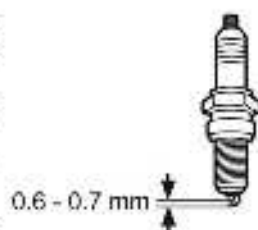

Fig. 24
- > Check the spark plug gap. It should be 0.6 - 0.7 mm (Fig. 24).
- > When replacing the spark plug, first screw it in hand tight and then lightly tighten it with the multi tool (27). Tighten the spark plug clockwise for approximate 90 degrees.